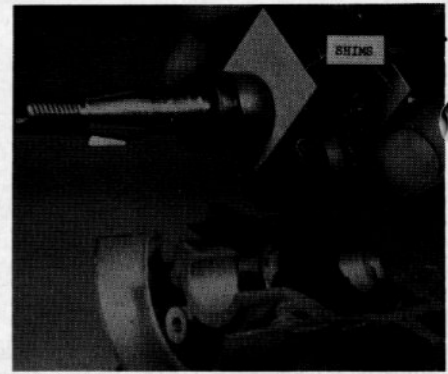

Fig. HL305—View showing placement of shims (Fig. HL304) between thrust washers (9—Fig. HL303) and bearings (10) for correct crankshaft assembly. Refer to text.
Fig. HL304—Shims used in crankshaft assembly may be made by putting 0.015 inch thick plastic, metal, or other suitable material in the outline shown above. Refer to Fig. HL305 and text.
Bearings, seals and thrust washers must be positioned correctly on crankshaft before final assembly. Use the following procedure for crankshaft installation: With piston assembly installed on rod, insert piston in cylinder being sure piston rings are properly located. Install thrust washers (9), bearings (10), retaining rings (11) and seals (12) on crankshaft. Place 0.015 inch thick shims shown in Fig. HL304 between thrust washers and bearings as shown in Fig. HL305. Gently push seals toward crankshaft counterweights until assemblies are snug. Remove shims and complete assembly being careful not to disturb position of thrust washers, bearings and seals. Before final tightening of